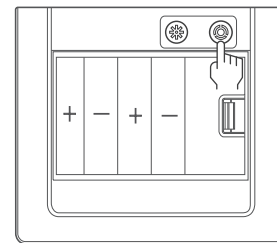

Figure 6
1. As shown in Figure 6, long press the black safe mode button '  'for 3 seconds. There will be a voice prompt 'Vibration alert is on', indicating successful operation. Long press it for another 3 seconds can turn the 'Vibration alert' off.